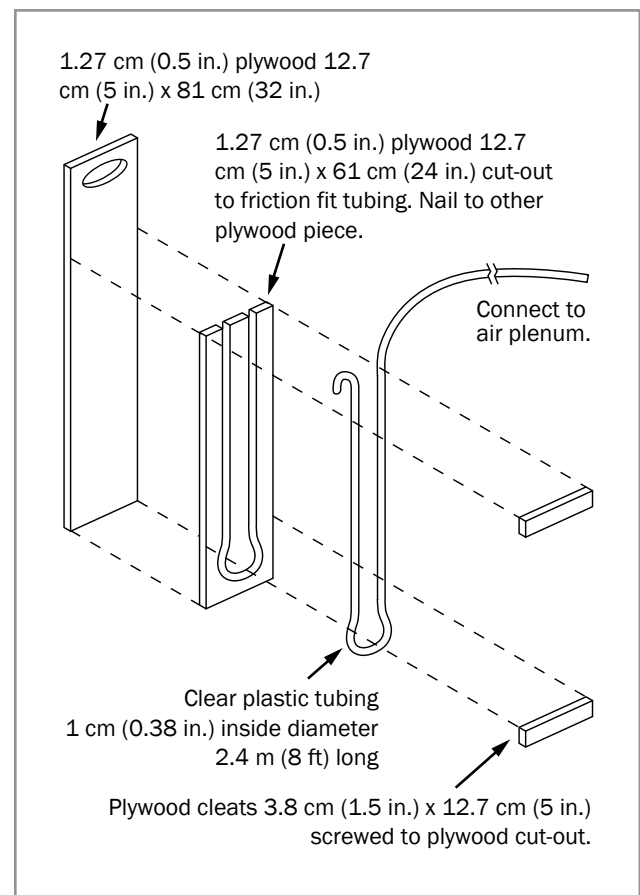

Figure 12–1. Home-built manometer.
- Install a manometer in the air plenum below the aeration floor to monitor the static pressure of the air moved by the fan. For information on how to build a manometer, see Figure 12–1, *Home-built manometer*.